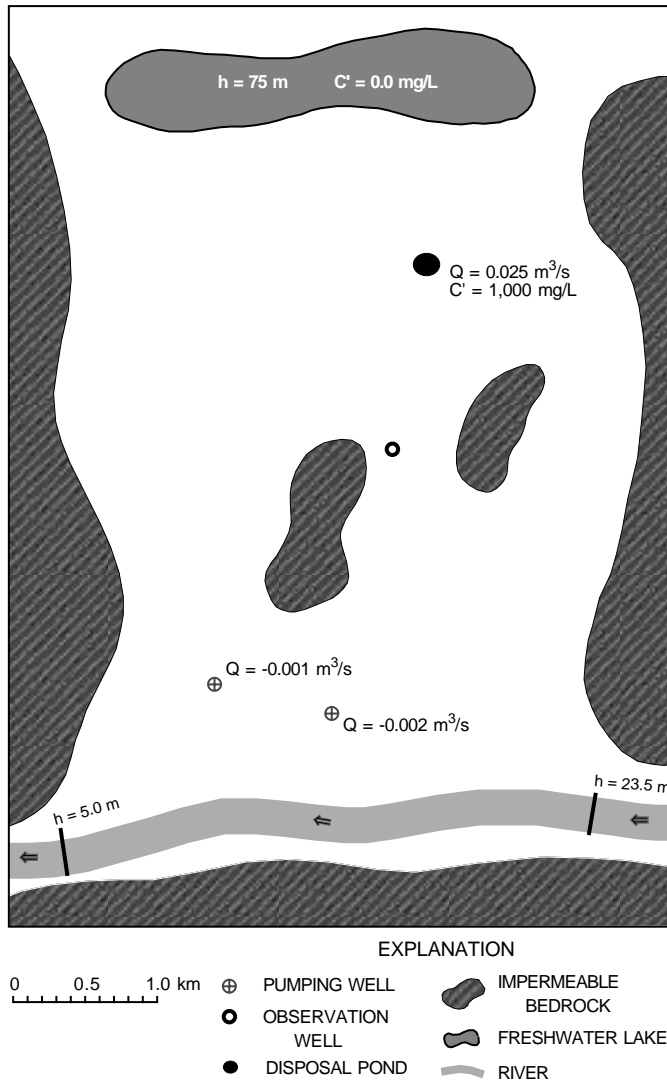

Figure 16. Base map for a two-dimensional sample problem.
The two-dimensional sample problem is based loosely on the ground-water contamination problem documented at the Rocky Mountain Arsenal, Colorado (Konikow, 1977). For use as an example for the application of modeling techniques, the properties and boundaries of the physical system have been approximated and greatly simplified. The results of this example problem, therefore, should not be taken to have any direct bearing on the actual field situation in Colorado. All of the information needed to define the problem are presented in the base map (Figure 16) and in Table 1. The area is bounded on two sides by impermeable bedrock, which act as no-flow barriers. The boundary at the top of the map is dominated by a freshwater lake, which can be assumed to represent a fully penetrating constant-
The page-size base map shown in Figure 16 was saved as a DXF file. First, we will import this DXF file into a map layer. In the floating layers window, click to the left of the "eye" icon next to Map Unit1. This will make that layer active. Under the File pull-down menu in the main Argus ONE window, choose Import Map Unit1, and drag the mouse to the selection arrow to the right edge of the menu, which opens a sub-menu listing file types. In the sub-menu, select DXF File. That will open a dialog box to specify which file to open. After selecting the desired file name (*rma_map.dxf* for this example), click Open. This will import the DXF file. The *rma_map.dxf* file is in units that do not fit within the default Argus ONE scale; a dialog box appears asking if the
3. Define regions of no flow: Copy the five objects in the Map Unit1 layer that correspond to impermeable areas in which there are no-flow zones (see Figure 16) and paste them into the Added Inactive Area Unit1. The default value (0) of the pasted objects defines them as no-flow barriers.
will open a Contour Information dialog box where the information associated with that well is entered (see Figure 22, which shows the values appropriate for each of the wells used to represent the disposal pond). Note that because the disposal pond is being represented by two separate wells, the stress rate must be divided between them to account for the known flux. (If a coarse grid is used and both wells fall within one cell, *MODFLOW-96* will account for both stress rates at a single node and the total flux will be consistent with the known value). Repeat this process for each well. Refer to Figure 16 for information associated with each well (use the